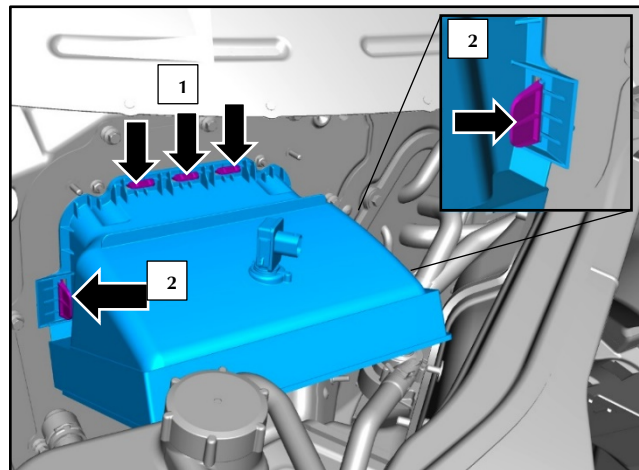

Figure 31
21. Install the heater inlet duct (refer to Figure 31).